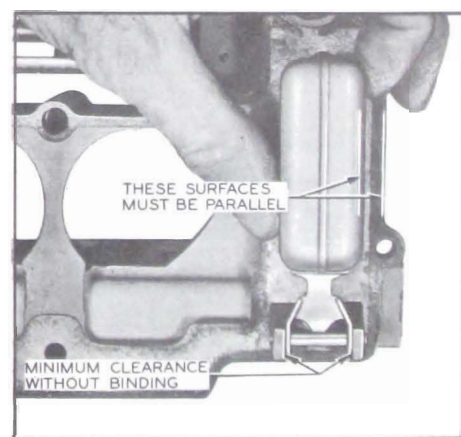

Figure 3-73—Float Alignment
9. Align Float - Sight down side of float to determine if side is parallel with outer edge of air horn. If adjustment is necessary, bend float lever by applying pressure to end of float with fingers while supporting float lever with thumb. See Figure 3-73.